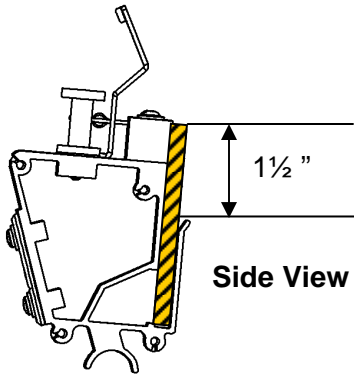

Figure 4-21a
6. Insert the new wicking foams so they rest on the bottom of the oil tank slot, as shown in Figure 4-21a. There should be 1½ inches of foam showing above the edge of the oil tank slot.